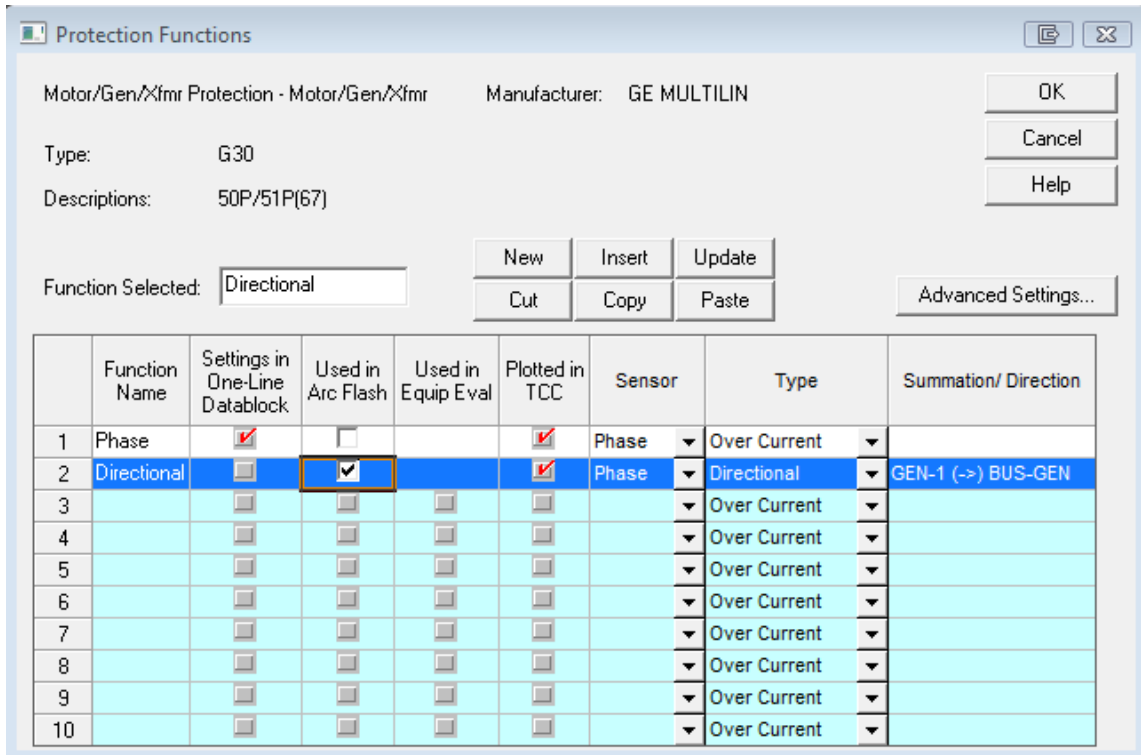

Figure 10
8. Click the Function button again to confirm that the “Used in Arc Flash” is now available for directional function as well. Check this box to use the directional function in Arc Flash. Note that the box in front of Phase is automatically unchecked (Figure 10). Now click OK.